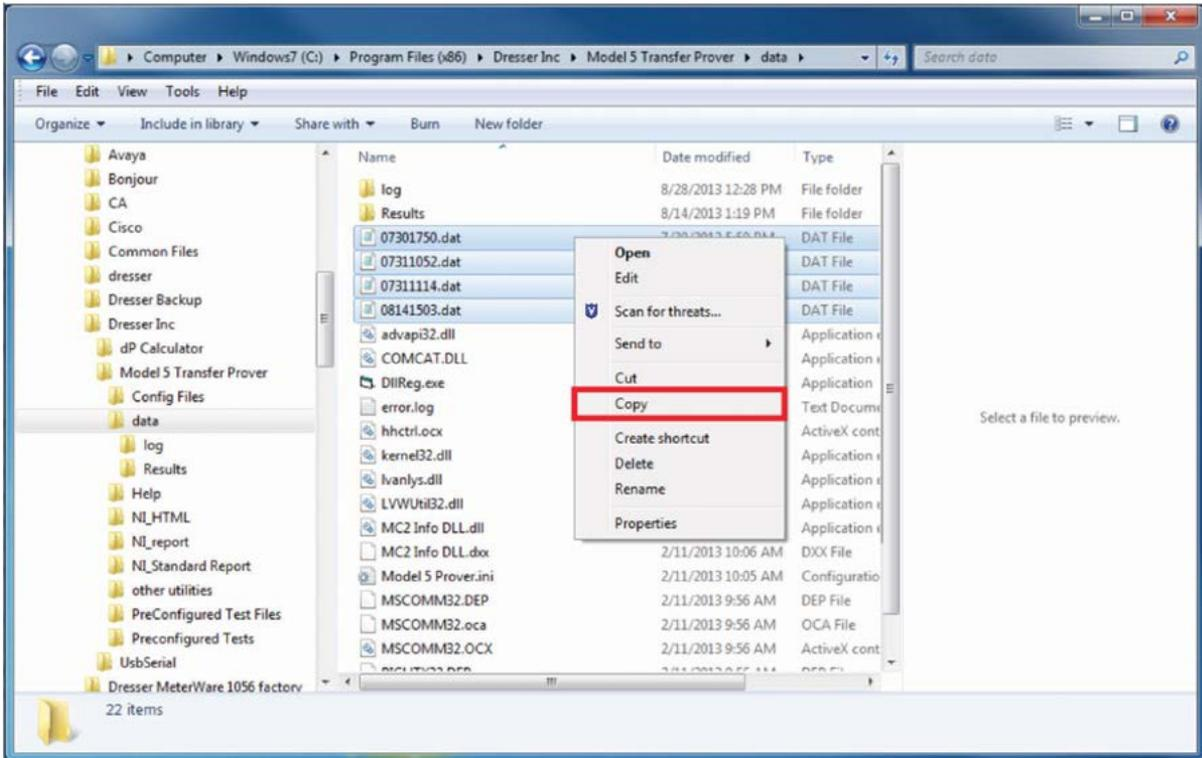

Figure 6: Copy Test Files
6. Highlight the files that are to be saved. (This can be done by single clicking on the name of the files while holding the “Ctrl” button.) Right click and select “Copy” as shown **Figure 6**.